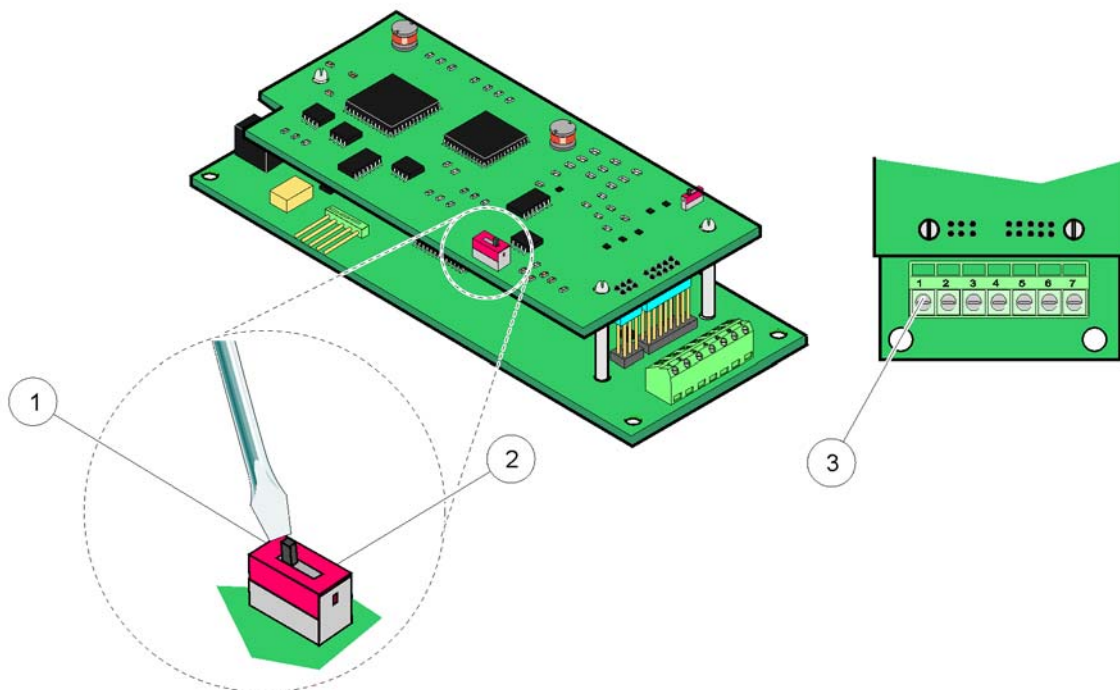

Figure 26 Profibus DP card (YAB020 up to December 2013) connections
4. Feed the cable through the base of the module and properly prepare and insert each wire into the terminal according to Figure 26 and Table 9. Make sure that the shield is connected to a threaded spacer on the board.